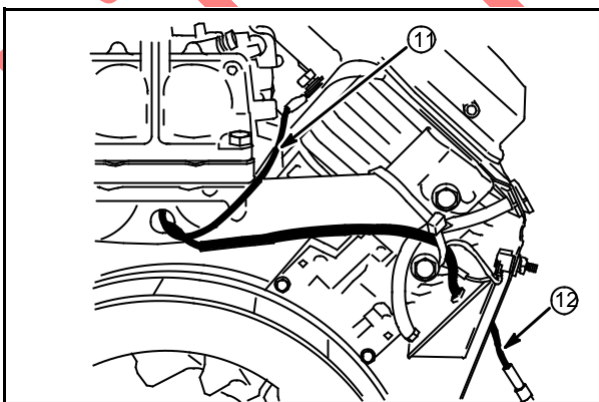

Fig. 34
Route long solenoid wire (12) under wire tie on manifold, then through hole in #1 cylinder shield, **Fig. 34**.